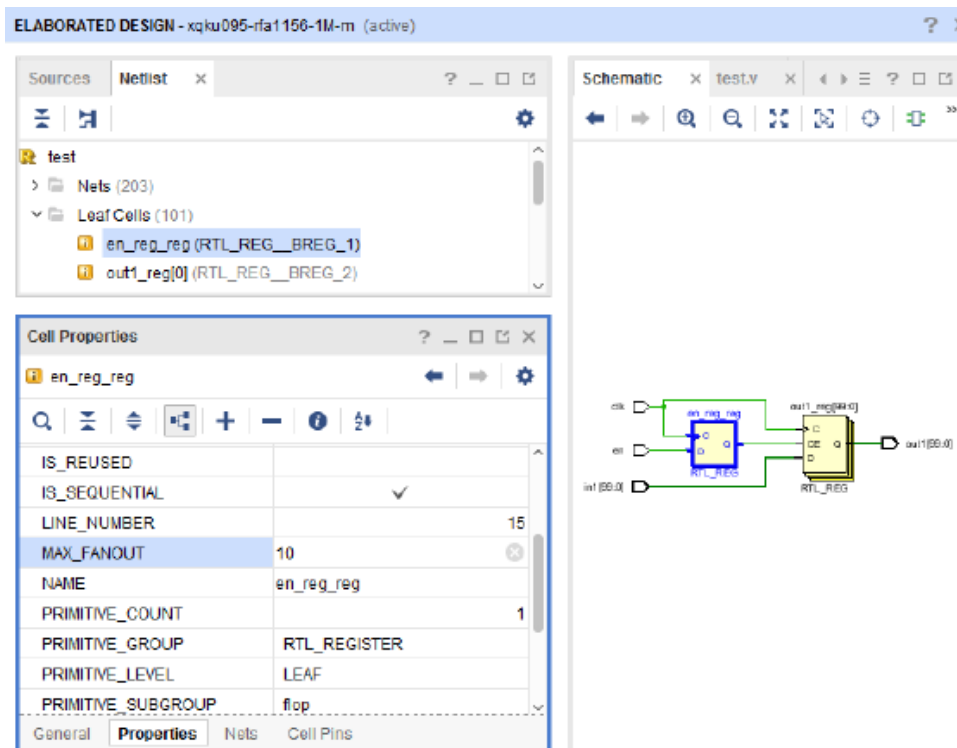

Figure 2-1: Adding an XDC Property from the Elaborated Design View
- Select the item in the RTL Netlist view, as shown in Figure 2-1.